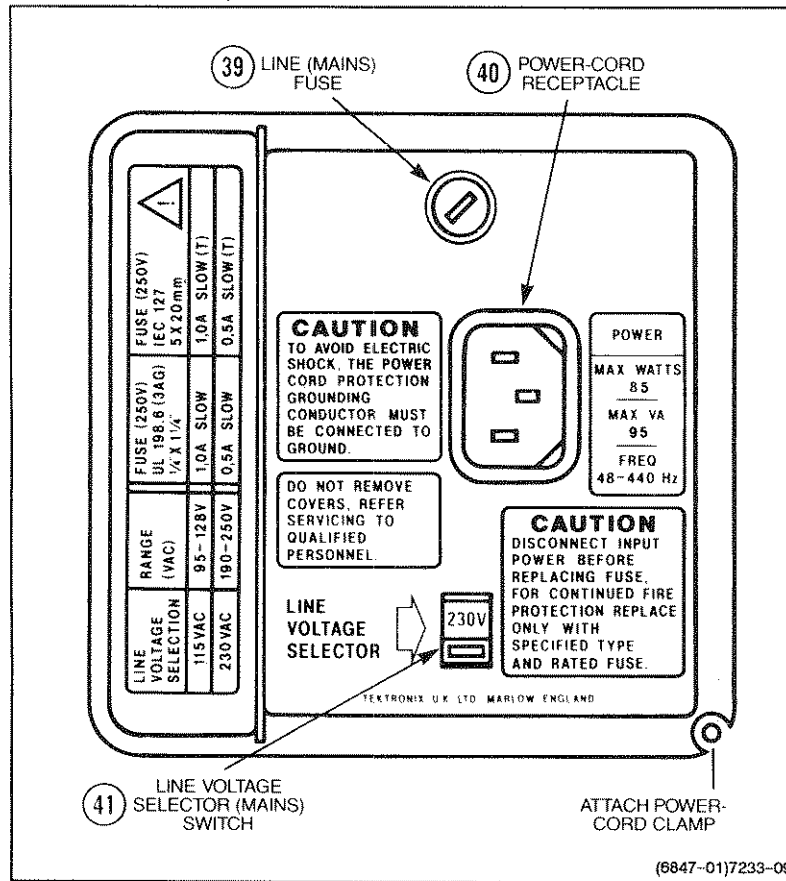

Figure 3-7. Rear panel.
- ④③ **ON/OFF Control**—When Cursor Measurement mode is active, depressing this button cancels the cursor measurement mode, extinguishing the cursors and the cursor measurement display. When the Cursor Measurement mode is inactive, depressing this button enables the cursor measurement mode, enabling the cursors and the cursor measurement display. When the instrument is first switched on, the Readout display will indicate the current switch settings, and  $\Delta V1$  will be operative: if CH 1 or BOTH is selected, or, if CH 2 is selected,  $\Delta V2$  will be operative.
See Figure 3-7 for the location of items 44 through 46.
- ④④ **Fuse Holder**—Contains the ac-power-source fuse. See the rear panel nomenclature for fuse rating and line voltage range.
- ④⑤ **Detachable Power Cord Receptacle**—Provides the connection point for the ac power source to the instrument.
- ④⑥ **Line Voltage Selector (Mains switch)**—Selects the line voltage range either 115 V or 230 V.